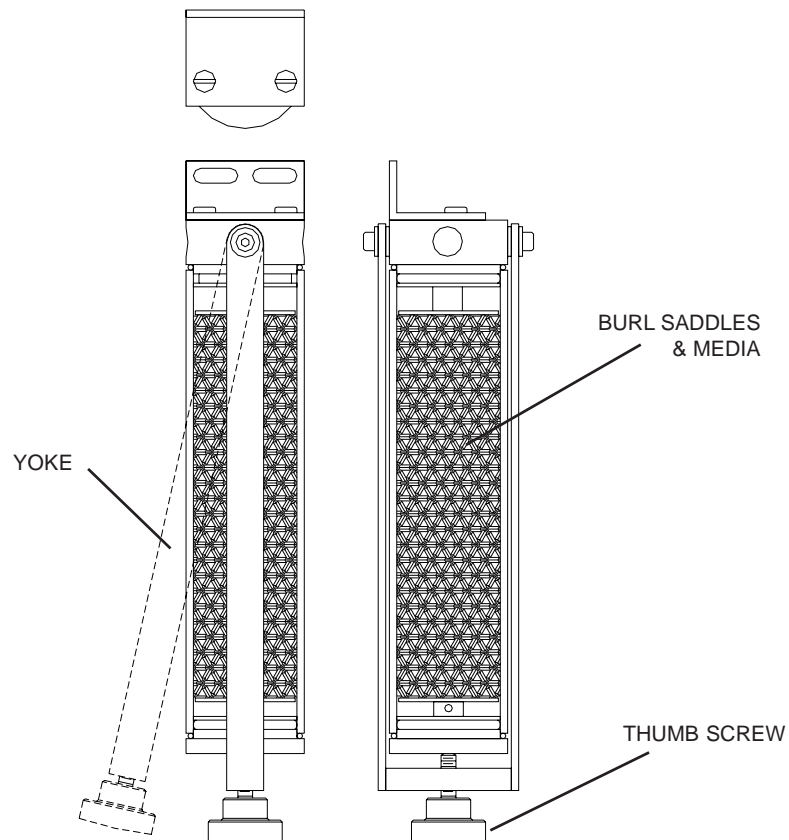

Figure 6
1. Unscrew thumbscrew on bottom of housing (see Figure 6).